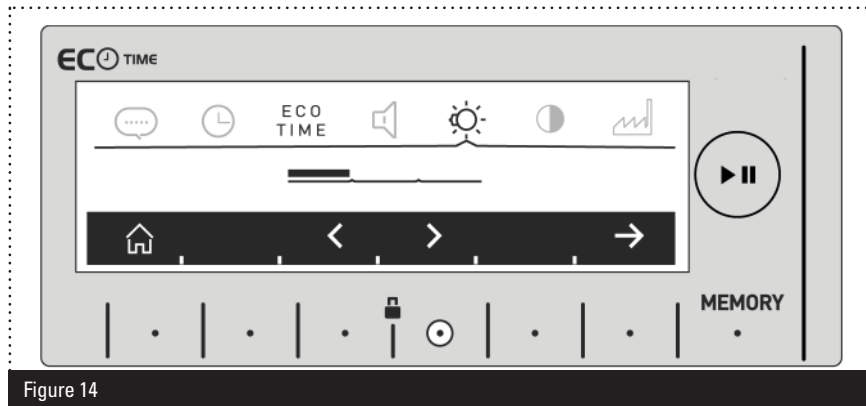

Figure 14
- » Use the < button to decrease the brightness of the information screen, or the > button to increase the brightness. The information screen displays a bar showing the level of brightness selected (fig 14).